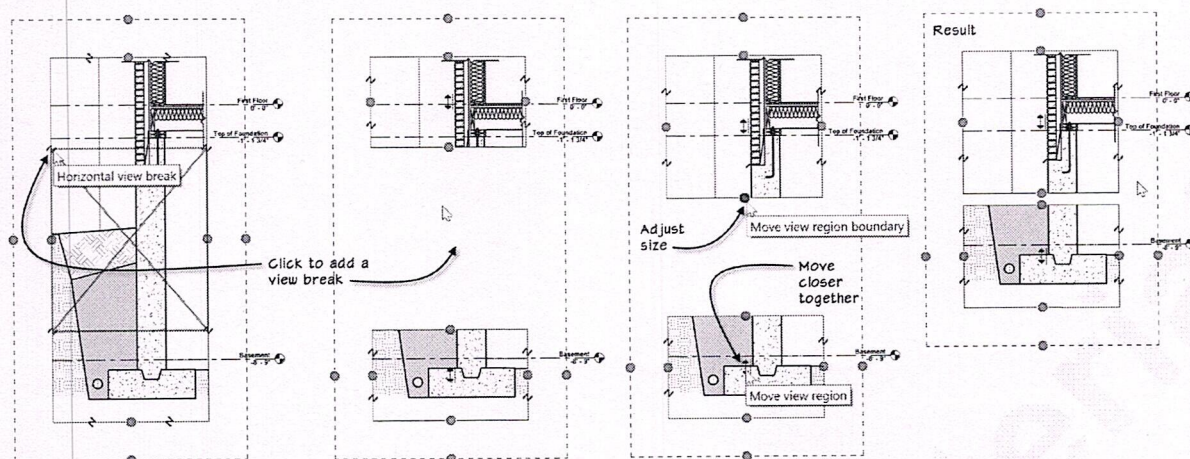

FIGURE 12.22 View break controls allow you to crop out the middle portion of the section
- ⇒ Click on the view break control (in the middle) of the bottom view break and drag it up so the crop region is a little below the upper crop boundary (see the right side of Figure 12.22).